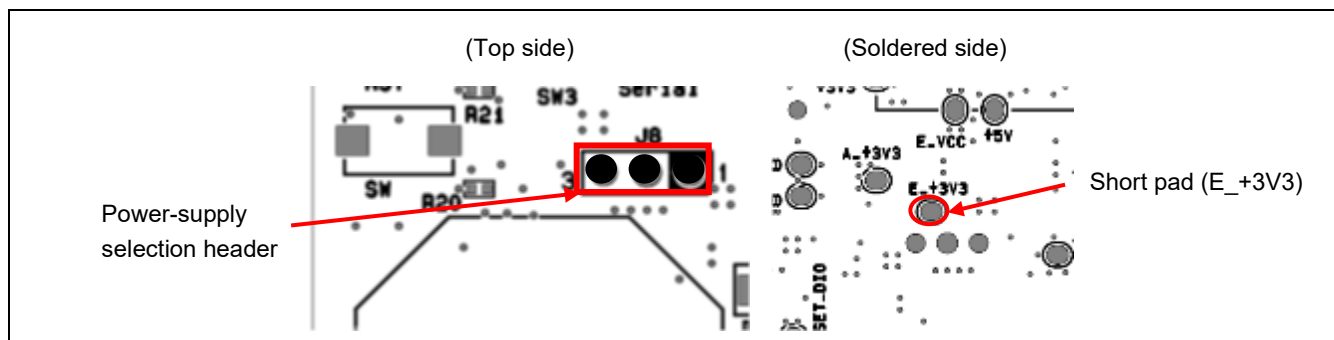

Figure 5-16 Settings to Select the Use of +3.3 V (Short Pad (E_+3V3))
- J8 being open-circuit and the short pad (E_+3V3) being short-circuit select +3.3 V. This is the default setting as shipped (Figure 5-16).